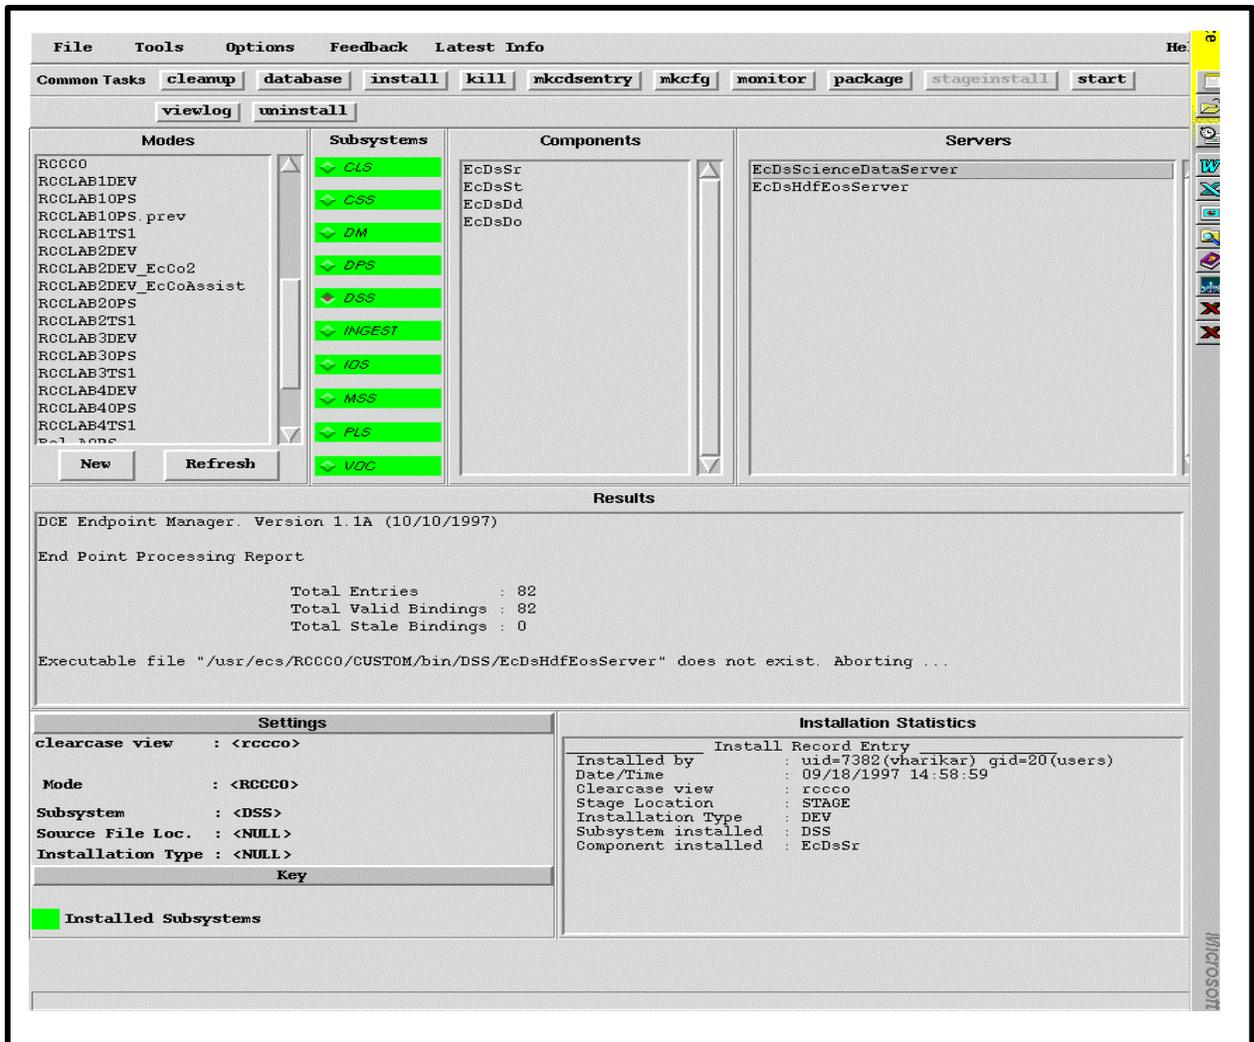

Figure 11.10-3 Server Monitor GUI
- This will invoke the Server Monitor GUI window as shown in Figure 11.10-3.